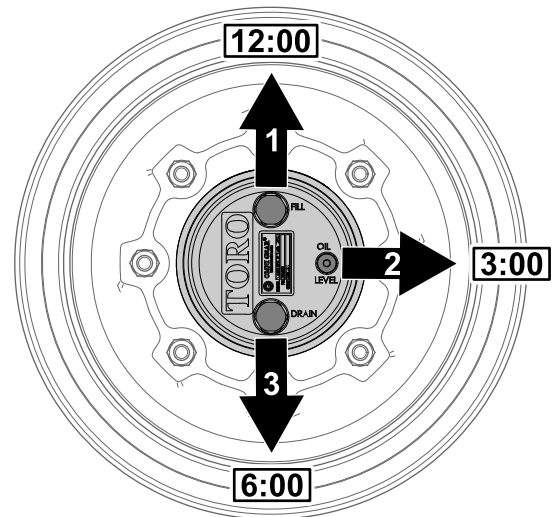

Figure 66
2. Remove the check plug at the 3 o'clock position (Figure 66).
1. Park the machine on level surface, position the wheel so that the fill plug is at the 12 o'clock position, the check plug is at 3 o'clock position, and the drain plug is at the 6 o'clock position (Figure 66).
1. Park the machine on level surface, position the wheel so that the fill plug is at the 12 o'clock position, the check plug is at 3 o'clock position, and the drain plug is at the 6 o'clock position; refer to Figure 66 in Checking the Planetary Gear-Drive Lubricant (page 49).